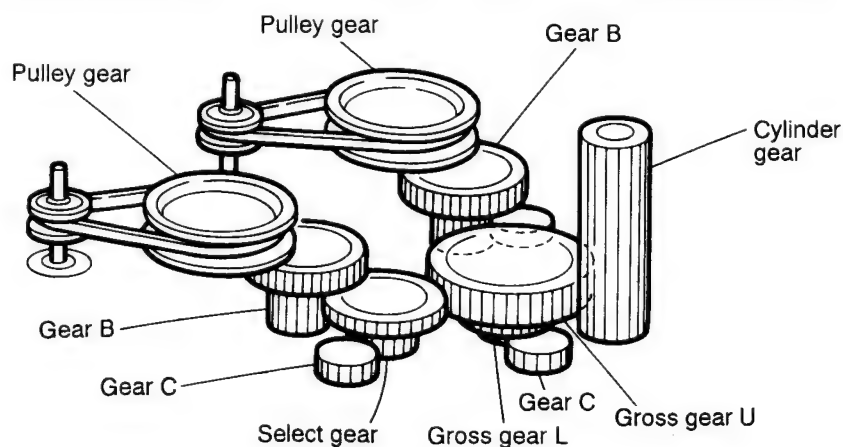

Fig. 5-43
**[Note]** When the chassis assembly is turned over under the conditions wherein the gear bracket and belt have been removed, then the pulley gear as well as the gear, etc. constituting the gear unit can possibly be separated to pieces. In such a case, assemble these parts by referring to the assembly and configuration diagram in Fig. 5-43.